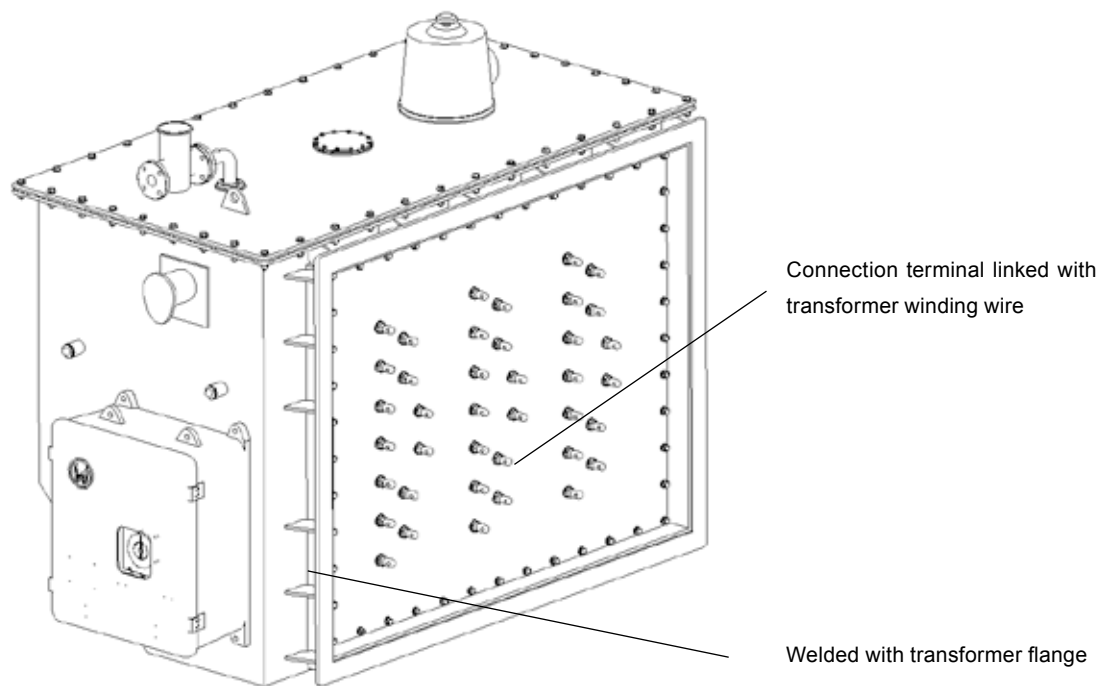

Fig. 10
9.1 Type HWV OLTC directly welded with transformer oil tank. (See Fig. 10)